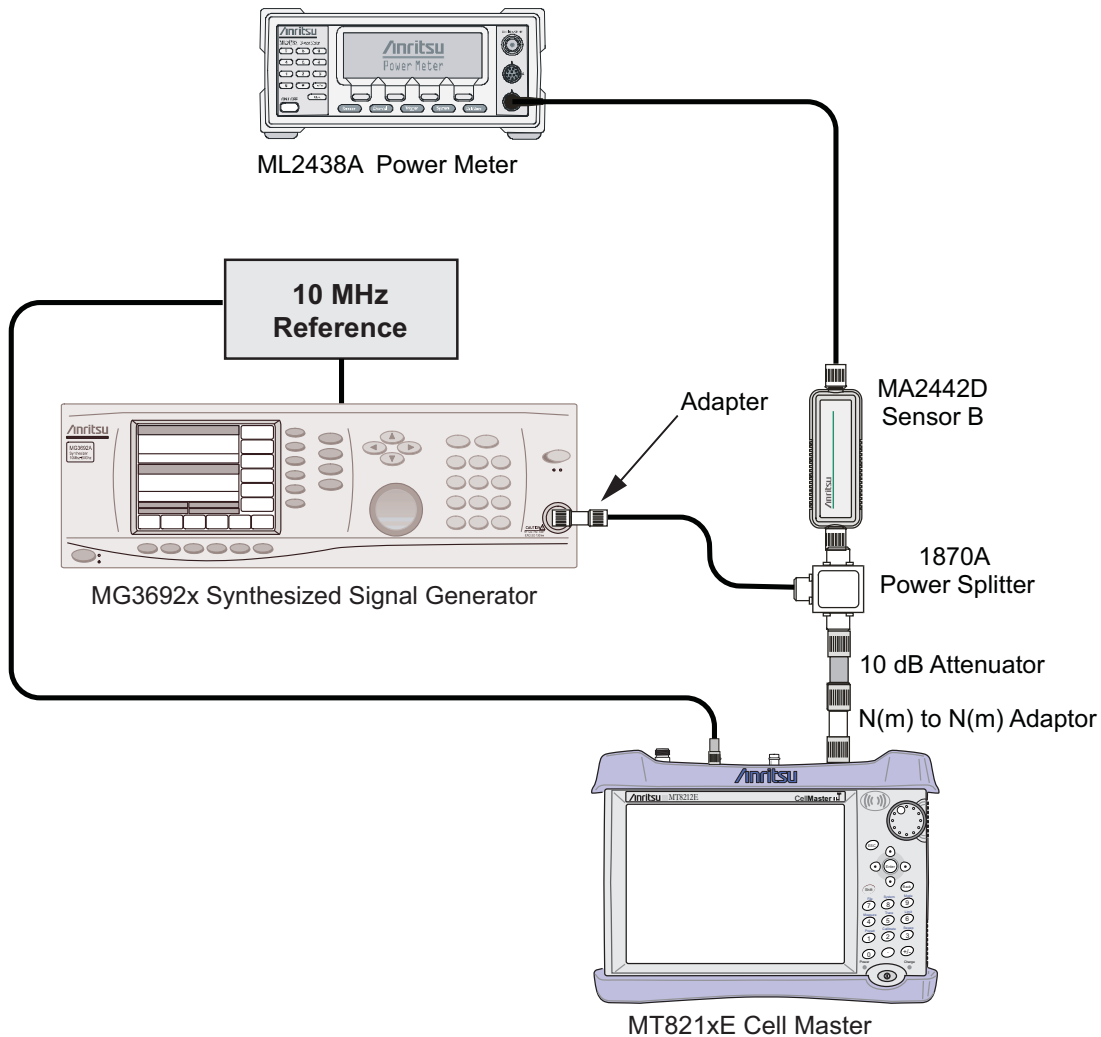

Figure 2-2. Absolute Amplitude Accuracy Verification Test Setup
1. Remove Sensor A, add the adapter and connect it to the Spectrum Analyzer RF In connector of the MT821xE Cell Master as shown in Figure 2-2.